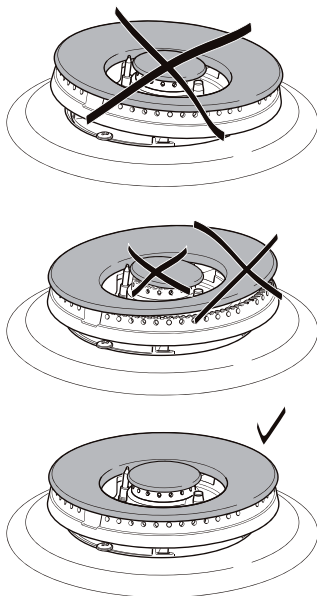

Figure 15f
- They shall be level and the flame spreader must not rotate (see fig. 15f).